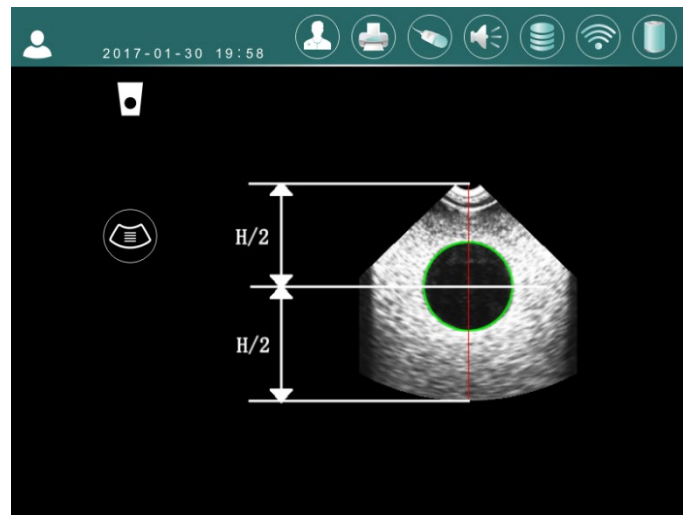

Figure B-3 Pre-scan image
B. 3. Enter pre-scan state by pressing SCAN key (Figure B-3)
B.4 Find the biggest round dark area(Target) by moving probe, adjust the distance between probe and phantom, let the round dark area (Target) be in the middle of fan-image in pre-scan. The red line shown in Figure B-3 is central line, the object measuring must be across this center line, the edge of round dark area is green.